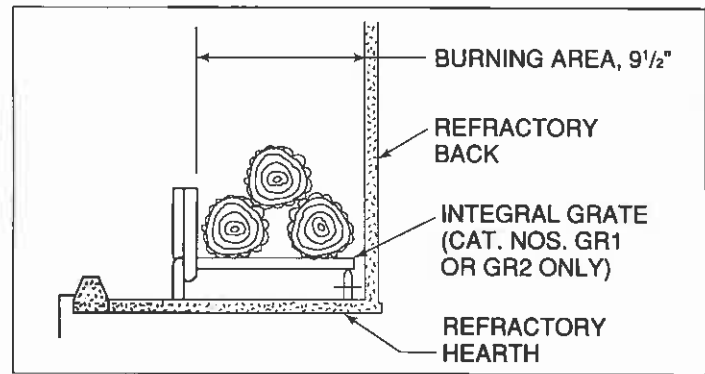

Figure 21
- E. **GRATE.** The factory installed Integral Grate must be used to hold the logs from falling out of an open fireplace and to allow air to pass between the burning logs. It is important to keep the fire off the hearth and to allow the ashes to collect beneath the fire, thereby forming a layer of additional heat protection. See Figure 21. Use only Catalog Number GR1 or GR2 Integral Grate for replacement.
- H. **SETTING THE FIRE.** Check the flue damper to be sure it is fully open. Place crumpled or twisted paper under the Grate. Loosely arrange kindling or small pieces of wood to form a layer above the paper. Place three logs in a rough pyramid as shown in Figure 21, being sure to allow free air space between the logs. Small sticks of wood may be used to separate the logs. Use only solid wood fuel or a listed decorative gas appliance. Do not use a fireplace insert or other products not specified for use with this fireplace. **NOTE:** When heated the first time, the temperature of the fireplace must be raised gradually, to prevent moisture within the refractory from causing cracks, and to allow the binders in the insulation to dissipate.